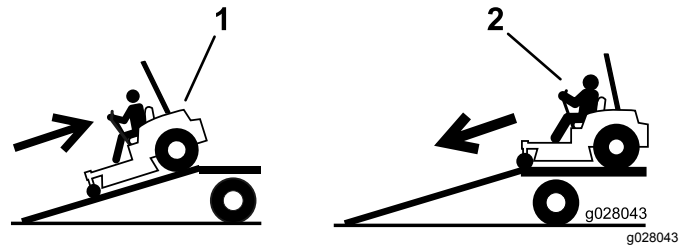

Figure 42
4. Back the machine up the ramp (Figure 42).
2. Drive the machine forward down the ramp (Figure 42).